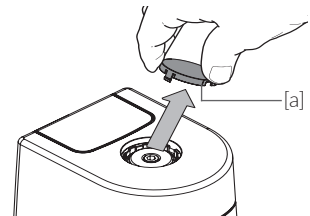

Fig. 7.1
- / loosen plug [a] carefully: lever under the notch, remove plug [a] (Fig. 7.1)